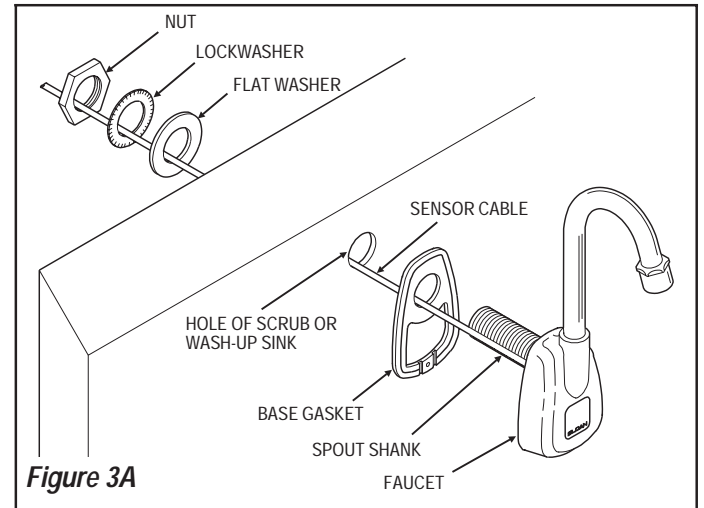

Figure 3A
Step 2 — Install Faucet Assembly (Figures 3A, 3B and 3C)
TO MOUNT ON A SURFACE LESS THAN 0.41" (10 mm) THICK (FIGURE 3A):